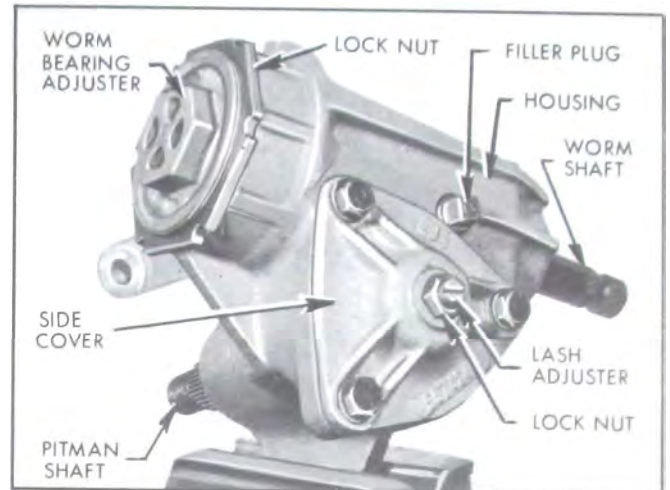

Figure 8-5—Manual Steering Gear Adjusters
There are two adjustments on the steering gear: worm bearing preload, and pitman shaft overcenter preload. See Figure 8-5.
7. Adjust Worm Bearing Preload. Loosen worm bearing adjuster lock nut using a drift. See Figure 8-5. Turn bearing adjuster as required to bring pull between 2 and 7 inch pounds. Tighten lock nut, then recheck preload.
2. Place steering gear in a soft jaw vise. See Figure 8-5. Do not clamp too tightly in vise as aluminum housing may be damaged.